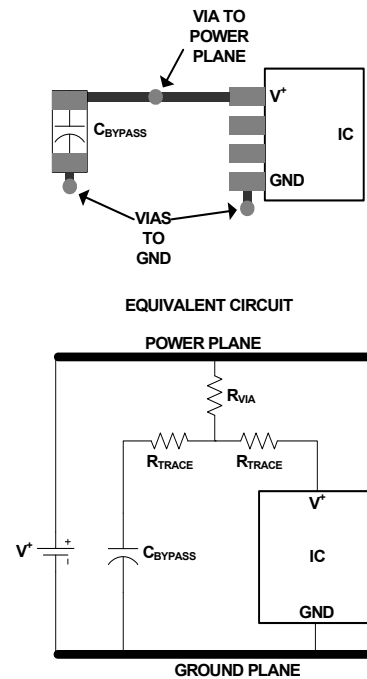
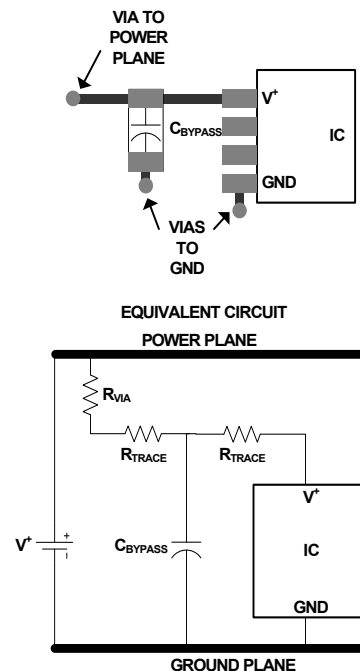

FIGURE 12. SUB-OPTIMAL BYPASS CAPACITOR LAYOUT
FIGURE 13. OPTIMAL (“T”) BYPASS CAPACITOR LAYOUT
- Ideally each supply should be bypassed to ground with a $0.1\mu\text{F}$ capacitor. Minimize trace length and vias to minimize inductance and maximize noise rejection. Figure 12 demonstrates a common but non-ideal PCB layout and its equivalent circuit. The additional trace resistance between the bypass capacitor and the power supply/IC reduces its effectiveness. Figure 13 demonstrates a better layout. In this case there is still series trace resistance (it is impossible to completely eliminate it), but now it is being put to good use, as part of a “T” filter, attenuating supply noise before it gets to the IC, and reducing the amount of IC-generated noise
that gets injected into the supply. Follow the good supply bypassing rules shown in Figure 13 to the extent possible.